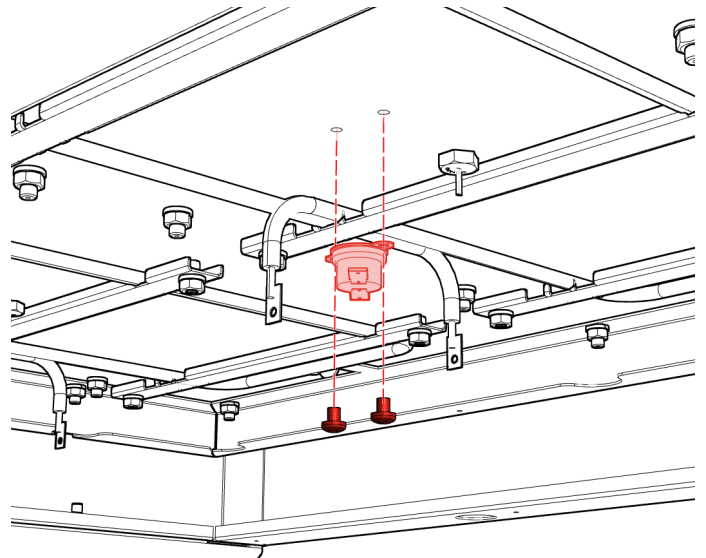

Fig. 10
4. For EACH high limit switch, remove two (2) M4 0.7 × 5 mm screws fastening switch to bottom of dry well pan (Fig. 10).